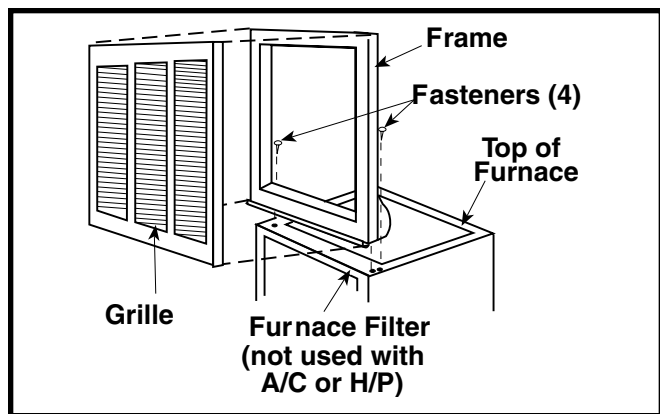

Figure 2. Grille Support Frame & Grille Assembly
Alcove installations: use return air grille & frame assembly P/N 902989 or equivalent. See Figure 2 \(page 7\).
- Use the filter supplied with the furnace. Make sure the filter is installed mat side down between the filter retainer and furnace top. See Figure 2.
A return air grille and frame assembly (Figure 2 (page 7)) is available for use in unducted return air installations. In downflow alcove installations, the grille and frame assembly may be mounted directly to the top of the furnace. In closet installations, a wall mount grille is available for attachment to a door or wall.